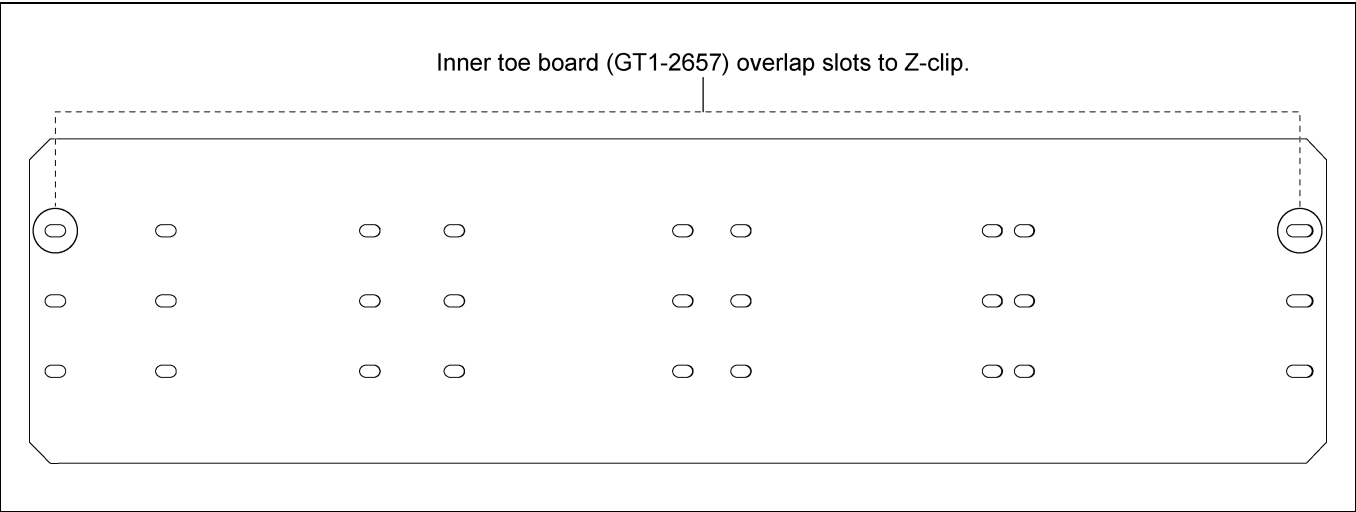

Figure 6L 23'-4" Inner Toe Board (GT1-2657)
3. Inner toe board is arranged with overlap slots on each side. Install 23'-4" offset and roof hatch inner toe boards (GT1-2657) to corresponding slots as shown in Figure 6L.